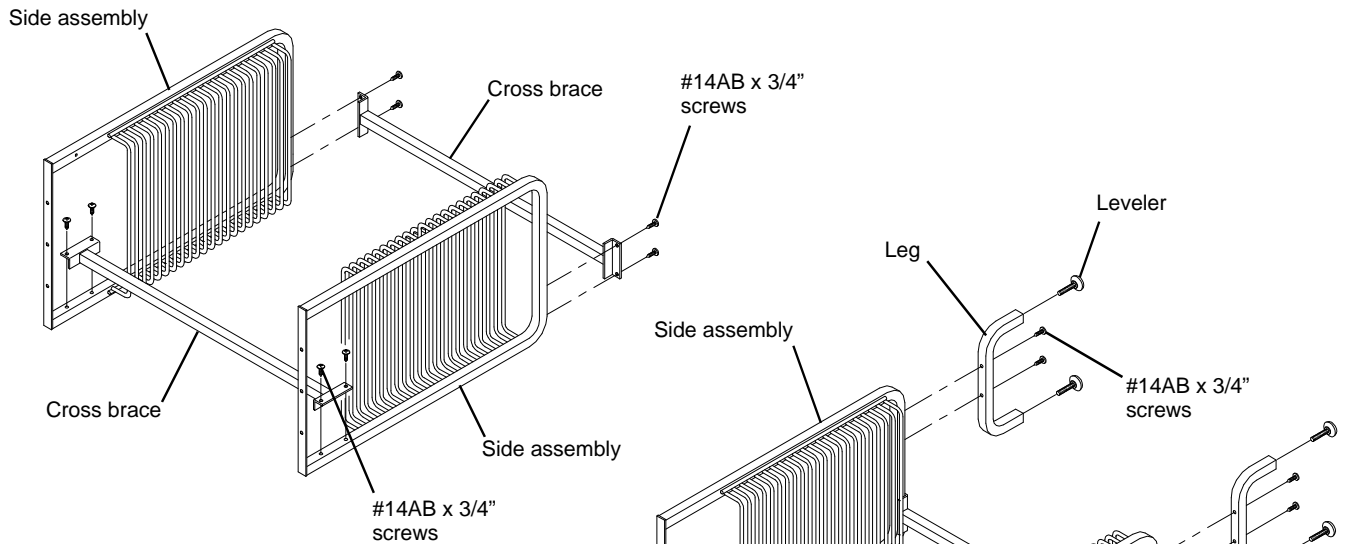

Figure 1
**NOTE:** The wire rack is to be on the inside of the Side Assemblies to create one left hand and one right hand assembly. Refer to **Figure 1** for handing).
1. Attach the **Cross Braces** to the Side Assemblies using eight #14AB x 3/4" screws. See **Figure 1**.